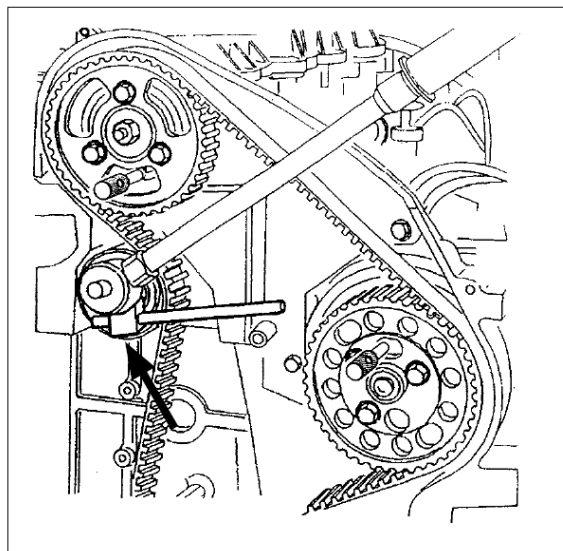

Fig. 2
- This tool is needed in order to turn the tensioner and hold it in place while tightening the central bolt (25 Nm) (Fig. 2).